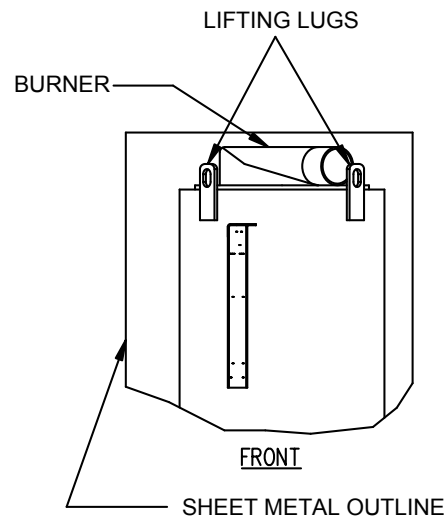

Figure 2.2
The unit must be installed on a 4 to 6 inch housekeeping pad for proper condensate drainage. If anchoring the unit, see the dimensional drawings in Appendix F for anchor location. Lifting lugs are provided for moving the unit when it has been removed from the shipping skid (See Fig. 2.2). **USE ONLY THE LIFTING LUGS TO MOVE THE UNIT.** Remove the rear top panel from the unit to provide access to the lifting lugs. Remove the four (4) lag screws securing the boiler to the shipping skid.